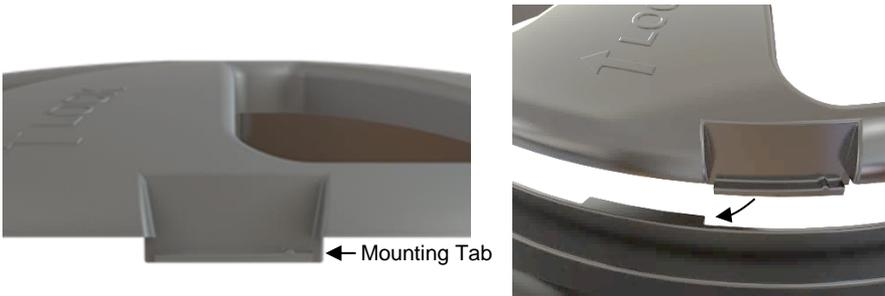

Figure 7: Safety Barrier Install
- 6.) Locate the four mounting tabs on the safety barrier. Insert the safety barrier into the locking tabs on connector flange. (Fig 7)